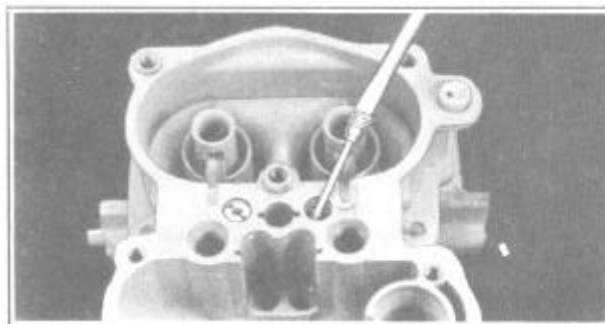

FIGURE 67
8. Install low speed jet assemblies and low speed jet bleeder plugs into bowl in casting, Figure 67. Work jets well into casting to insure good seat.